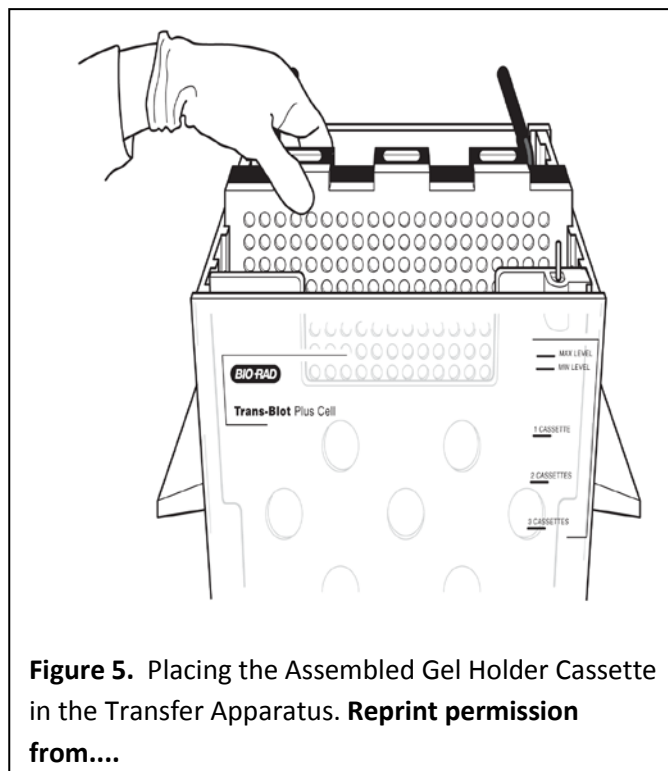

Figure 5. Placing the Assembled Gel Holder Cassette in the Transfer Apparatus. **Reprint permission from....**
5. The gel transfer assembly unit is now ready to be placed in the gel holder cassette for the transfer apparatus (**See Fig. 5**). The transfer will run at 40V for about 1 hour. The transfer process can be monitored by watching the dye front at the lower edge of the gel disappear as it moves out of the gel. When the transfer is deemed complete, the TA will remove the blot from the transfer apparatus and stain it with Ponceau S, a general protein stain similar to Coomassie that, unlike Coomassie, does not permanently stain the nitrocellulose membrane. This will provide information about the quality of the transfer and quantity of protein on the blot. Blots found to have insufficient quantities of protein are not likely to produce satisfactory immunoblotting results. You can observe (or do) this step, if your transfer is complete within the lab period. If not, you can see the Ponceau S-stained membrane in the next lab period before it is cut into strips for individual lab groups.